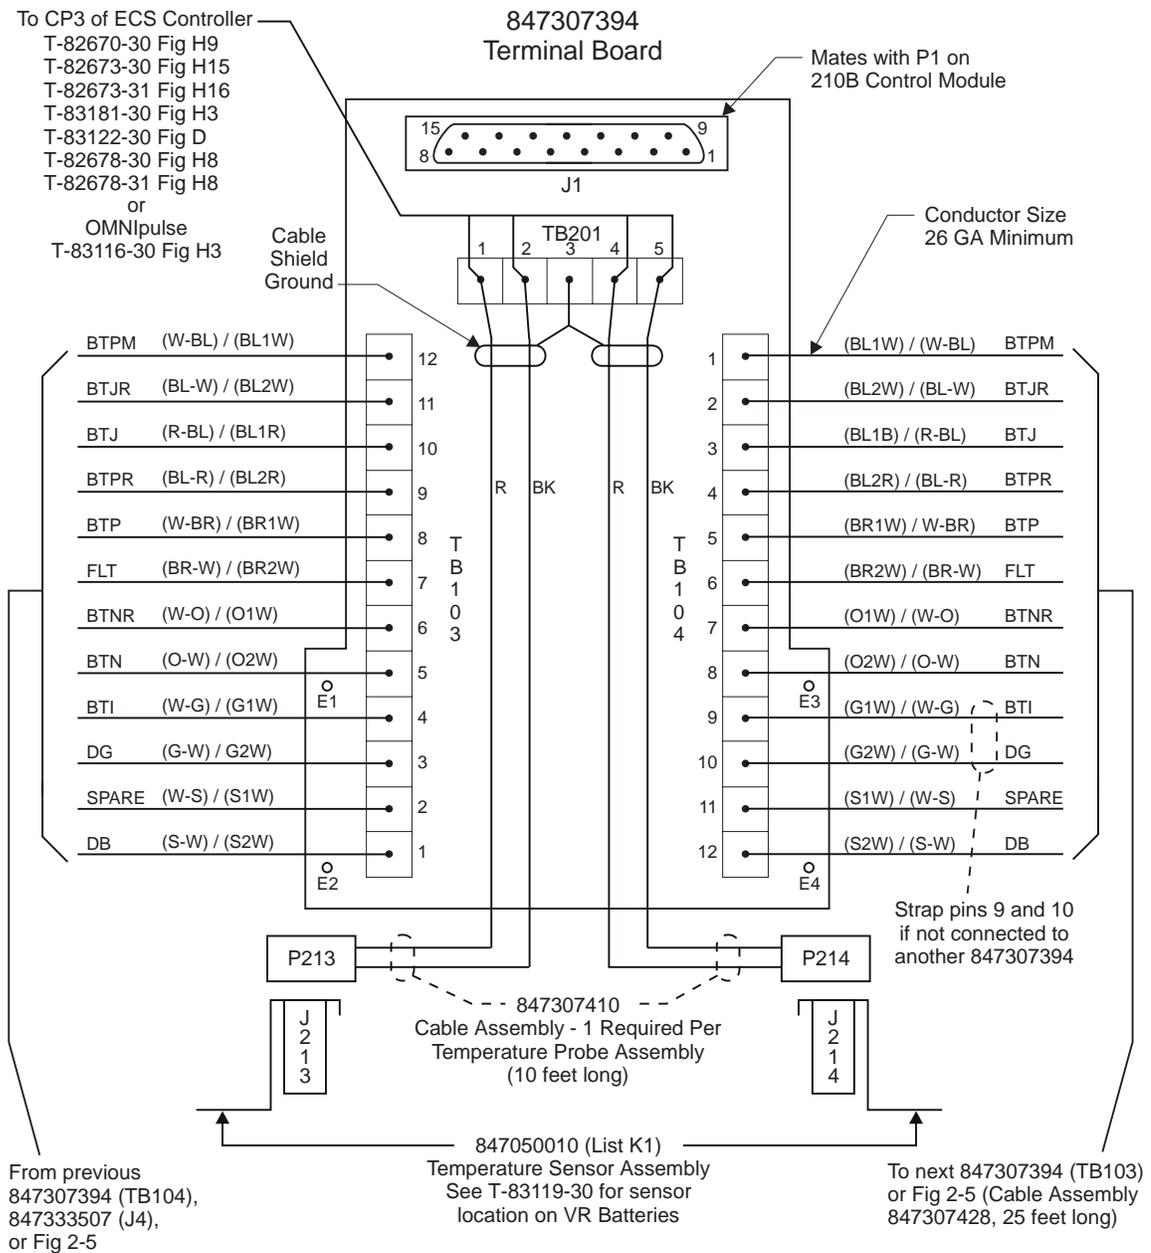

Figure 2-3: Terminal Block Version
5. Using the cable provided, connect the two thermistors to the base terminal block. Connect the first thermistor to TB201 positions 1 and 2. Connect the second thermistor to TB201 positions 4 and 5 (see Figure 2-3 or 2-4).
Using the 12 conductor cable provided, connect TB104 position 12 of one base to TB103 position 1 of the next closest base (see Figure 2-3). Continue with TB104 position 11 to TB103 position 2, etc., through TB104 position 1 to TB103 position 12. Continue this daisy chain connecting until all the bases are connected together.